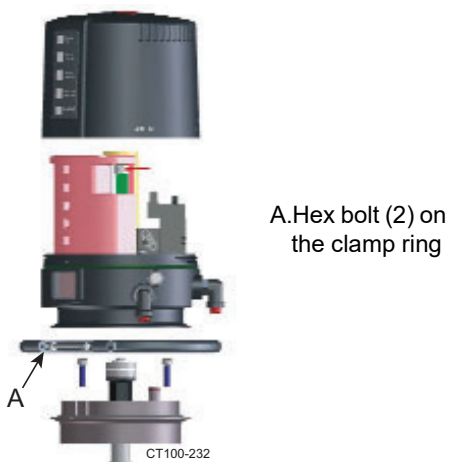

Figure 50 - CU4 Control Top Removal
2. Remove the (2) hex bolts on either side of the clamp ring at the base of the control top (Figure 50).